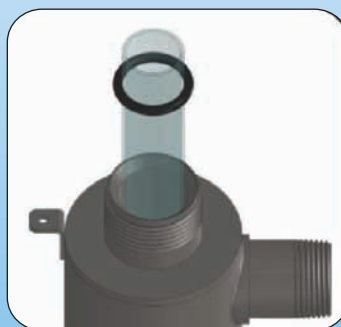

Figure 4. Quartz Sleeve installation
Step 9: You can now gently remove the quartz sleeve from its packaging being VERY careful not to touch the length with your hands. The use of cotton gloves (not included) is recommended for this procedure as oils from our hands can leave residue on the sleeve and lamp which can ultimately block the UV light from getting to the water. In the package, you will find a lubricated O-ring. Place the O-ring over the open-end of the sleeve as shown in Figure 4.